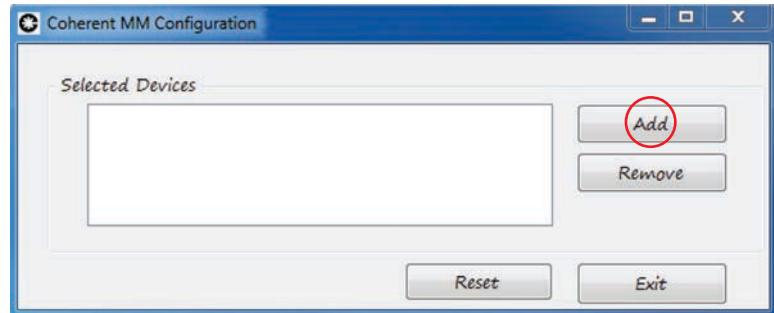

Figure H-4. Add Button
7. Click Add, shown in Figure H-4.